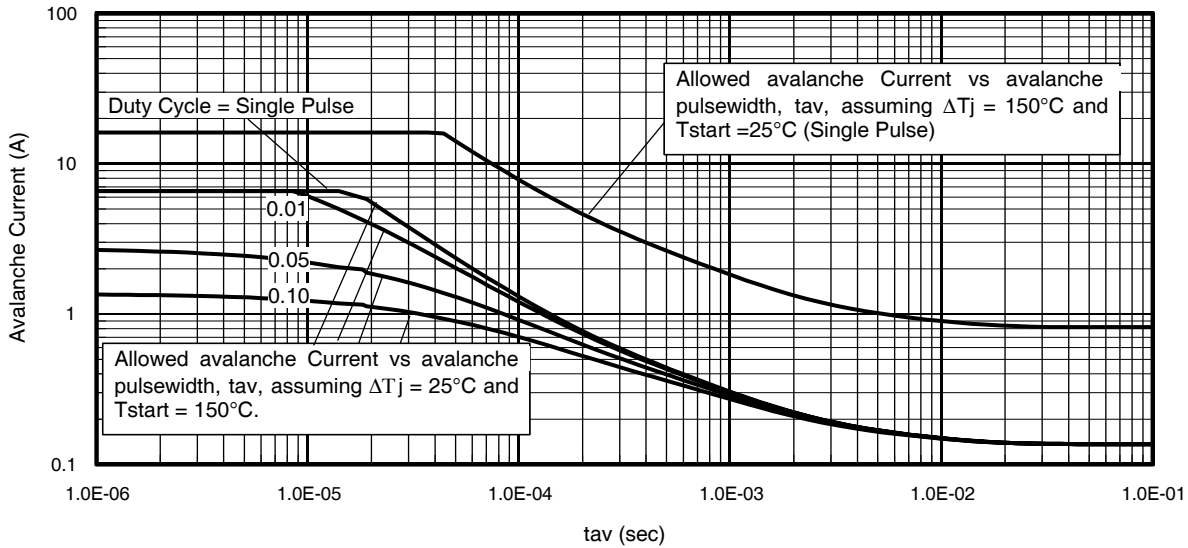

Fig 14. Typical Avalanche Current Vs. Pulsewidth
- ① Repetitive rating; pulse width limited by max. junction temperature.
- ② Starting  $T_J = 25^\circ\text{C}$ ,  $L = 1.46mH$ ,  $R_G = 25\Omega$ ,  $I_{AS} = 10A$ .
- ③ Pulse width  $\leq 400\mu s$ ; duty cycle  $\leq 2\%$ .
- ④  $R_{\theta}$  is measured at  $T_J$  of approximately  $90^\circ\text{C}$ .
- ⑤ Limited by  $T_{jmax}$ . See Figs. 14, 15, 17a, 17b for repetitive avalanche information
**Notes on Repetitive Avalanche Curves , Figures 14, 15:**
7.  $\Delta T$  = Allowable rise in junction temperature, not to exceed  $T_{jmax}$  (assumed as 25°C in Figure 14, 15).